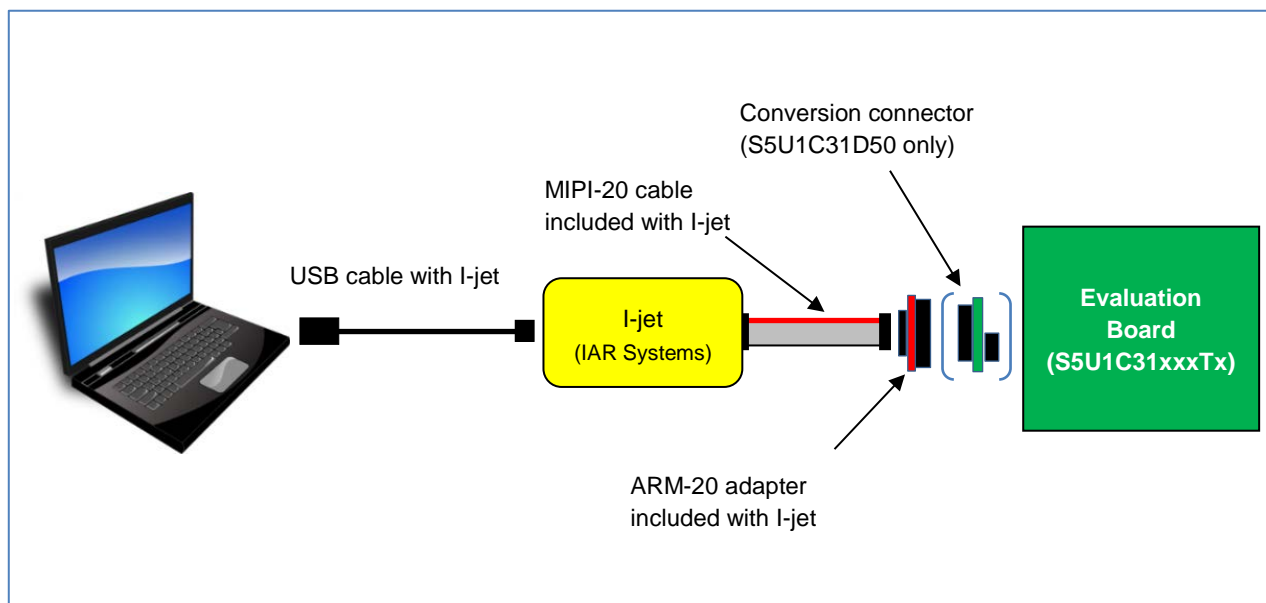

Figure 3.2.1.1 Hardware Connection using I-jet*1
- (1) Connect I-jet to the PC with IAR EWARM installed using the USB micro cable included with I-jet. This enables the PC to automatically install the device driver.
- (2) Connect I-jet to the evaluation board(ex. S5U1C31xxxTx) using the MIPI-20 cable and ARM-20 adapter included with I-jet. (see Figures 3.2.1.1)
*1: Figure 3.2.1.1 shows an example when the evaluation board (S5U1C31xxxTx) works using 5V power supply supplied from a debug probe (I-jet).